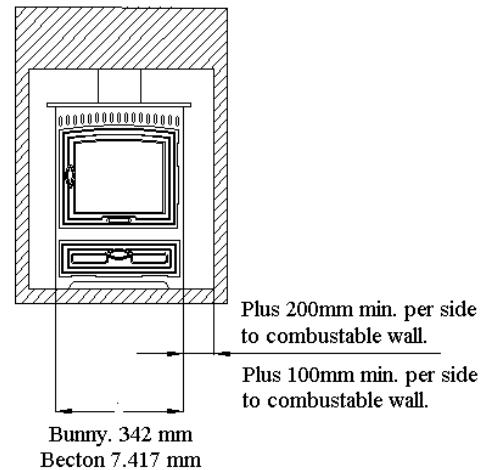

Fig 6a.
*For clearance from the top of the fire to any combustible shelf. Fig 6a. (See Graph 1).*
*There must be a minimum of 230mm from the rear of the fire to any combustible back wall. Fig 6a.*